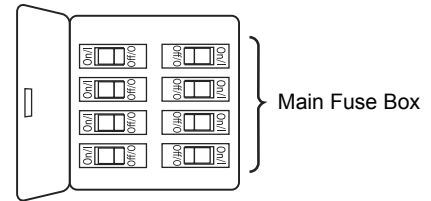

Figure 1
Your new ceiling fan will require a grounded electrical supply line of 120 volts AC, 60 HZ, 15 Amp Circuit. Electrical code requires use of a fan-rated outlet box to support the extra weight and motion associated with a ceiling fan. A fan-rated box will be labeled as such and typically supports up to a 70lb ceiling fan. Fan-Rated Outlet Boxes vary in ratings and design. Ensure the ratings of your ceiling fan outlet box meet the requirements for the ceiling fan being installed. Figure 1, Figure 2 and Figure 3 depicts different structural configurations that may be used for mounting the outlet box.
Low profile box (Figure 1)
- ☐ 2. Remove the hanger ball by loosening the setscrew in the hanger ball until the ball falls freely down the downrod (Figure 1). Remove the pin from the downrod, then remove the hanger ball. Retain the pin and hanger ball for reinstallation in Step 6.
The fan must be hung with at least 7' of clearance from floor to blades (Figure 1)
To avoid possible electrical shock, be sure electricity is turned off at the main fuse box before wiring. (Figure 1)
1. Screw in two threaded rods into the hanger bracket. (Figure 1)
- ☐ 1. Lay side "A" of the blade holder on a flat surface with the inside of the blade holder facing up. This is the side with the threaded posts and pitched foot. (Figure 1)
- ☐ 6. Tighten both screws to secure the blade. (Figure 1)
- ☐ 1. Restore electrical power to the outlet box by turning the electricity on at the main fuse box. (Figure 1)